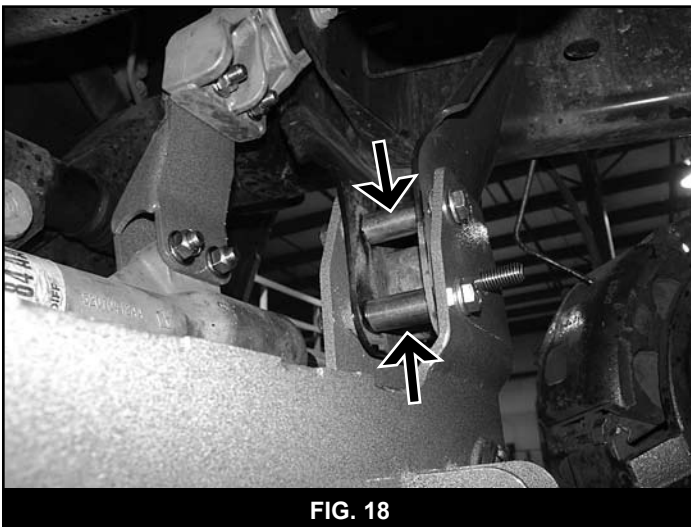
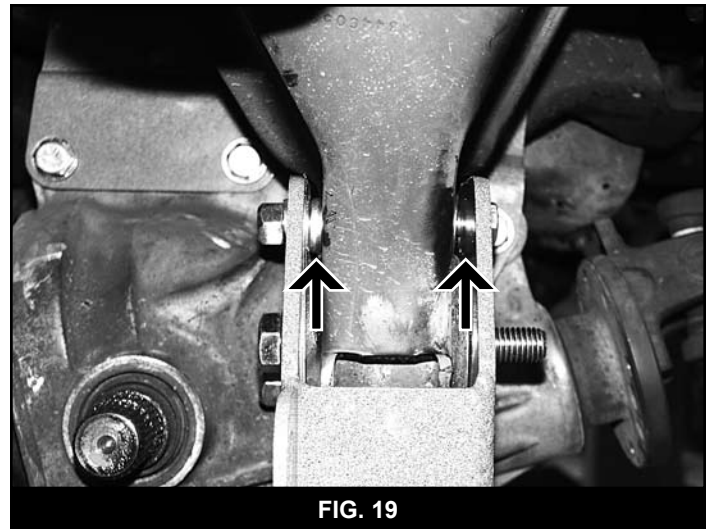
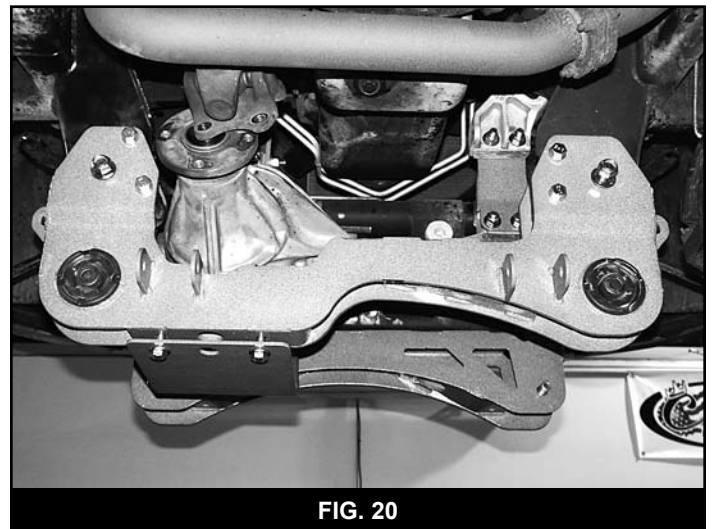

FIG. 18
FIG. 19
FIG. 20
42. Install the provided 7/8" x 1.640" spacer sleeves at each of the four OE rear crossmember mounting holes (Fig 18) and fasten through the new crossmember, OE mount and sleeves with 12mm x 100mm bolts, nuts and 12mm washer (BP #618). At the driver's side top mounting hole, in addition to the spacer sleeve, install the two provided 1/4" spacer washers between the new crossmember and the OE frame mount (Fig 19). Leave hardware loose (Fig 20).